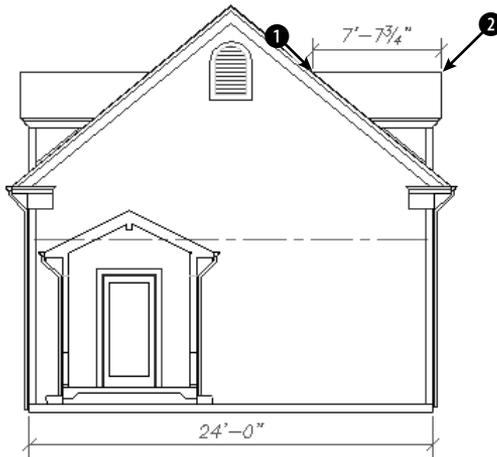

Figure 15-26: The dimension style is now complete.
10. To see how the stacked fractions appear, create a linear dimension from ① to ② in Figure 15-26. If necessary, zoom in to see the dimension text clearly.
- Return to the previous view if you zoomed in. Save your drawing. It should look like Figure 15-26.